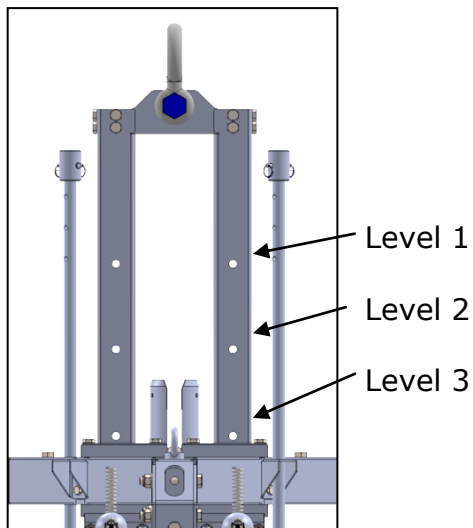

Figure 2: Locking levels
- Remove 2x safety bolts from level 2 (see p. 5 - Figure 2)